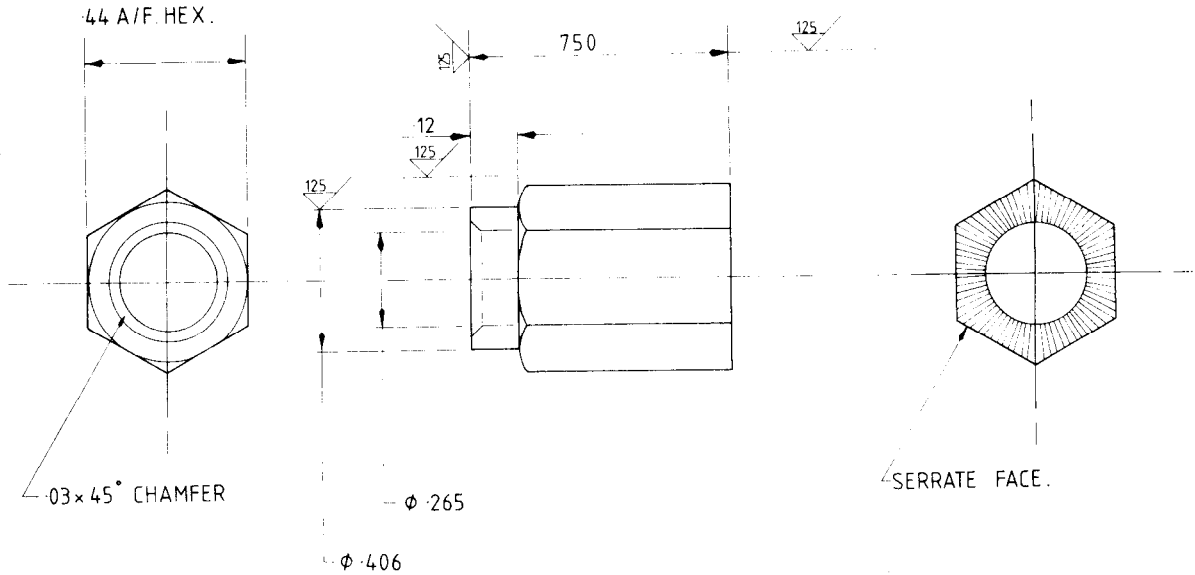

FIG 2 - TOOL FOR INSERTING TAP RIVETS
- c. Using the tool shown in Fig 2, fit the tap rivets, item 3 from Table 1.
- 1. Tap rivets and the associated fitting tool are not in-service items. As their use is becoming common in industry and the soldier tradesman will come across them on Mack and other vehicles, a simple tool and the method of using it is illustrated in Fig 2 and 3.
- d. Using gasket, item 4 and screws item 2 from Table 1, secure the grab handle in position.
- 10. Referring to Fig 2, manufacture a tool for inserting tap rivets.